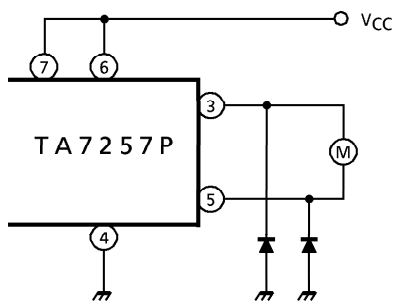

Fig.3
- i) If the braking operation is so loose, connect a additional diode between each output to GND, (See Fig.3)